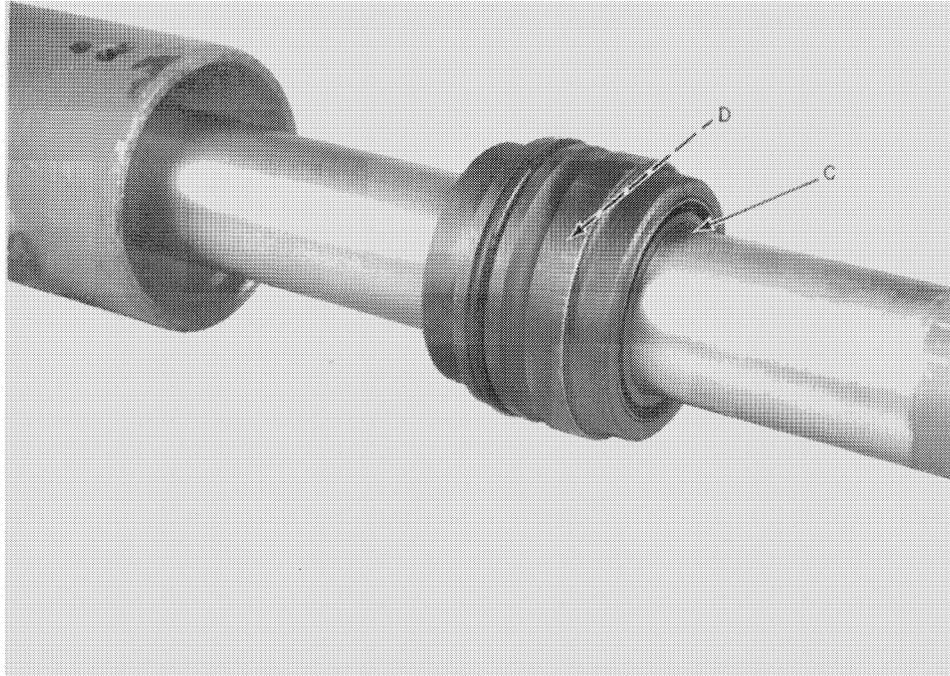

FIGURE 40
2. Install new seal inside cylinder head, D, Figure 40. Install seal, C. Slide cylinder head assembly over piston rod.